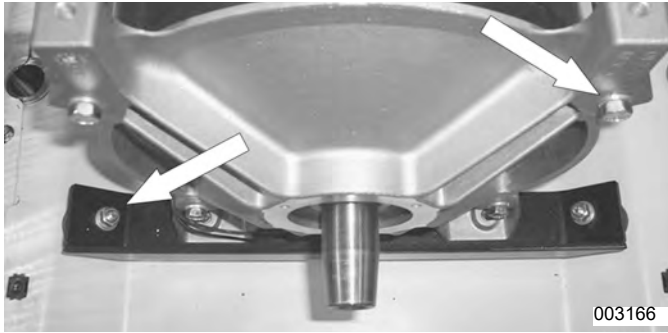

Figure 5-55.
24. **Rear Bearing Carrier Removal:** See Figure 5-55. Use a 13 mm socket to remove the two nuts from the alternator mounting bracket rubber mounts.